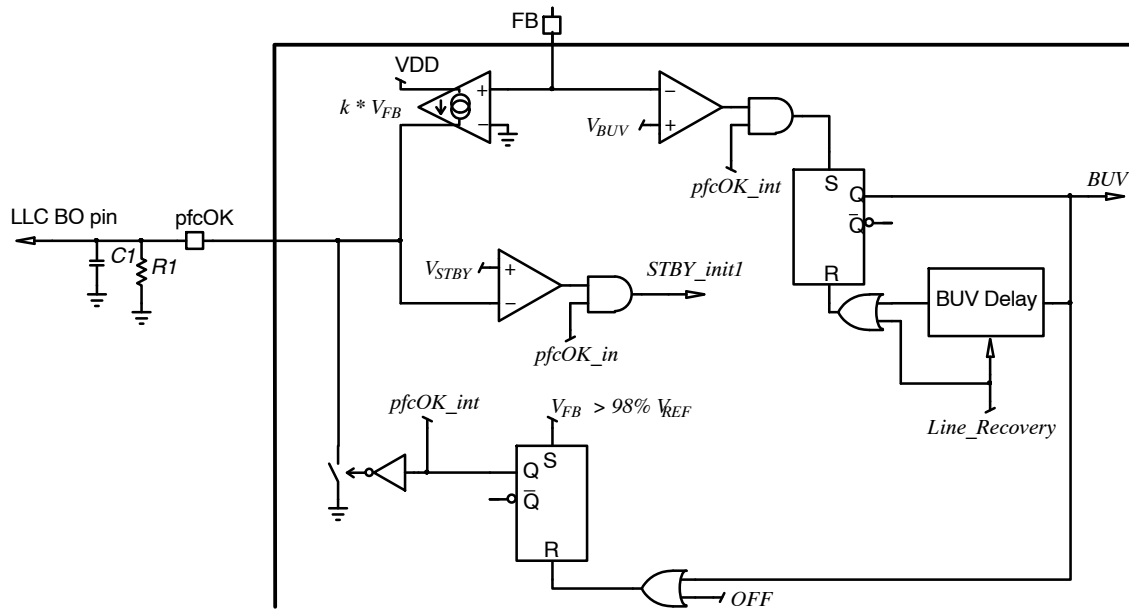

Figure 16. *pfcOK* Block
Practically, the *pfcOK* pin is grounded when the PFC stage enters operation and remains in low state until the output voltage has nearly reached its nominal level (practically when V_{FB} reaches 98% V_{REF}). At that moment, the *pfcOK* pin sources a current proportional to the feedback voltage ($k \cdot V_{FB}$). See Figure 16. Placing an external resistor between the *pfcOK* and GND pins, we obtain a voltage V_{pfcOK} which is proportional to the bulk voltage and can serve as a feedforward signal for the downstream converter. k typical value is 10 $\mu\text{A/V}$ so that the *pfcOK* pin typically sources 25 μA when the FB voltage is 2.5 V (regulation level).
- Bypasses the BUV timer if the BUV protection has tripped during the line-sag event so that operation resumes as soon as the line recovers (see Figure 16).